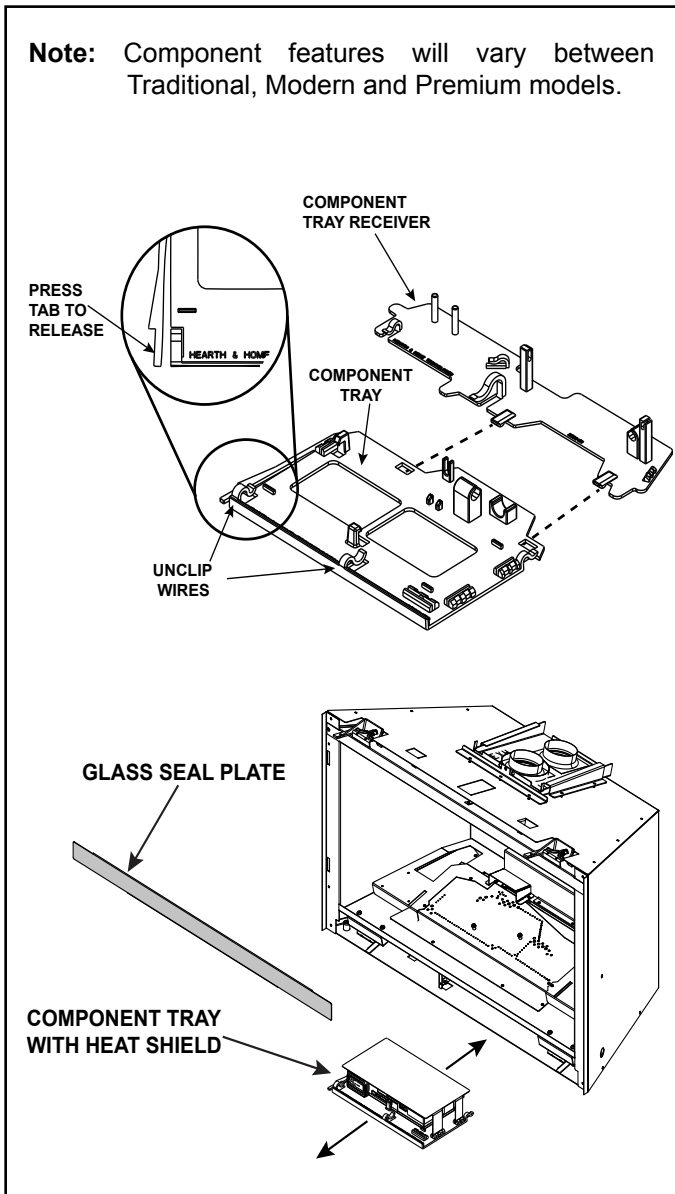

Figure 2 Component Tray - Modern and Traditional
- To access controls, press component tray tab and slide component tray out. See Figure 2.
Note: Wires may need to be removed from clips for full access. See Figure 2.